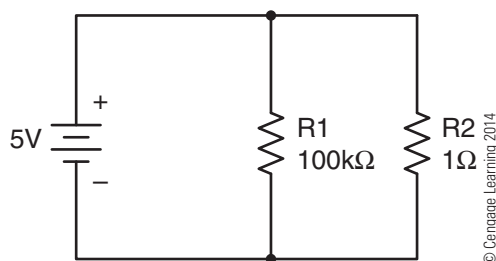

Figure 2-60
15. Referring to **Figure 2-60**, technician A says that since R2 is the path of least resistance, current will only flow through R2. Technician B says that the voltage dropped across R1 and R2 would both be 5V because R1 and R2 are in series with each other. Who is correct?
16. Find the following for **Figure 2-60**: